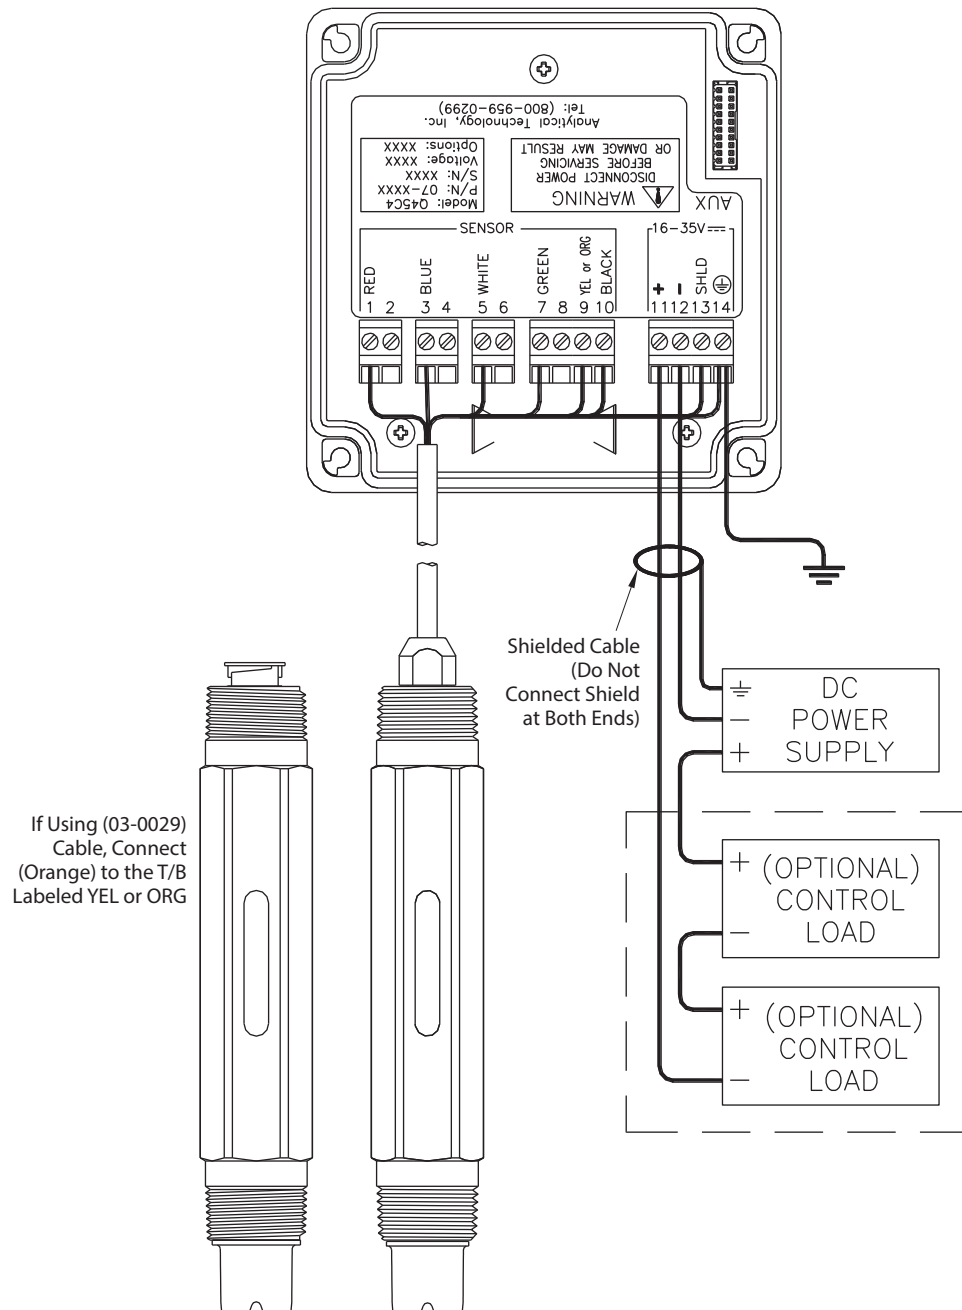

Figure 13: Loop-power connection
1. Use wiring practices that conform to all national, state and local electrical codes. For proper safety as well as stable measuring performance, it is important that the earth ground connection be made to a solid ground point. See Figure 13 on page 21.
In the two-wire configuration, a separate DC power supply must be used to power the instrument. The exact connection of this power supply is dependent on the control system into which the instrument connects. See Figure 13 on page 21 for further details. Any twisted pair shielded cable can be used for connection of the instrument to the power supply. Route signal cable away from AC power lines, adjustable frequency drives, motors or other noisy electrical signal lines. Do not run sensor or signal cables in conduit that contains AC power lines or motor leads.